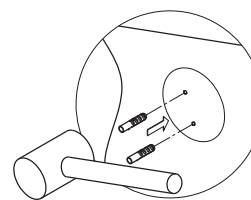

Fig. 4
- Step 4. Insert anchors into the holes with a hammer until flush with the wall (fig 4).